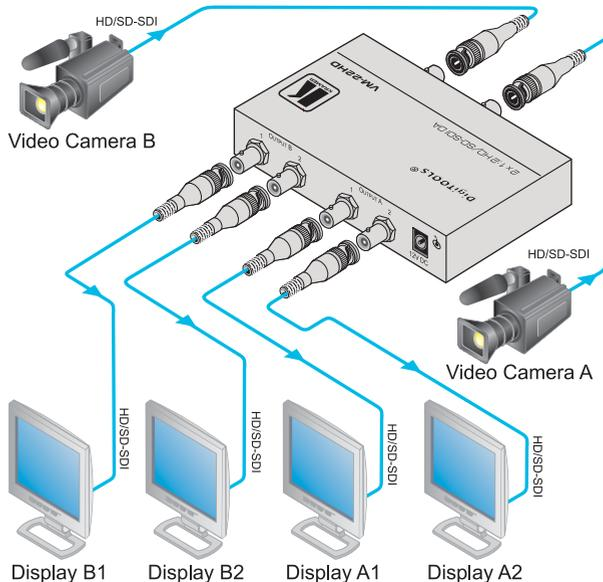

Figure 2: Connecting the VM-22HD in Single Link Mode
To connect the **VM-22HD**, as shown in the example in Figure 2, do the following¹:
3. Connect the 12V DC power adapter to the power socket and connect the adapter to the mains electricity (not shown in Figure 2).